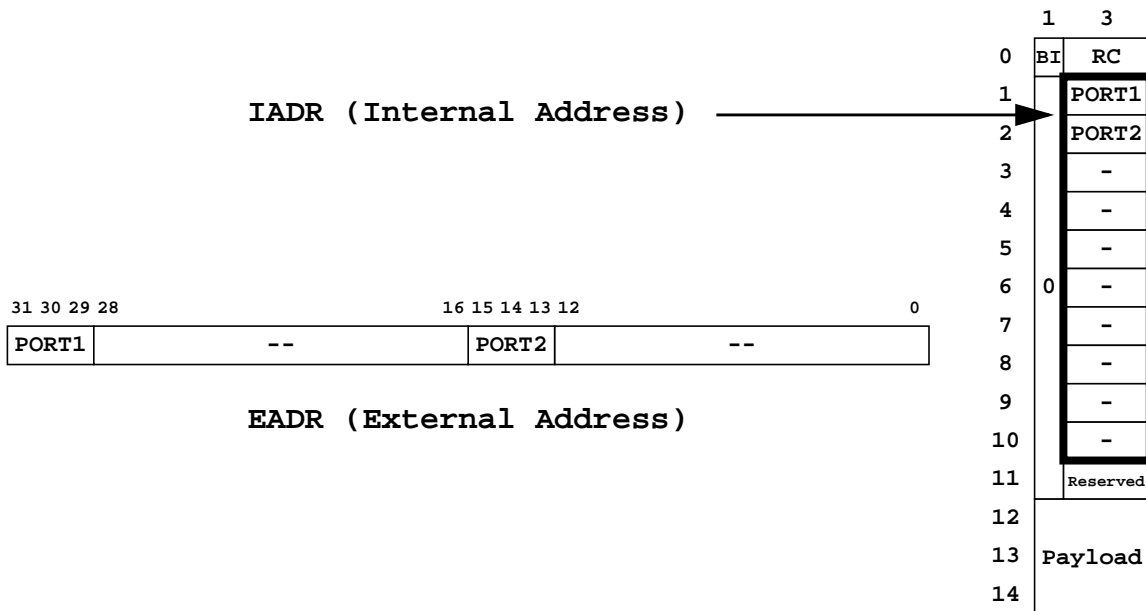

Figure 19: EADR and IADR Format for WUGS-20
- See Figure 19 for exact format.
- All VXT entries contain two sets of the fields: PORT (half of EADR, see Figure 19), CYC, VXI, UD, BDI